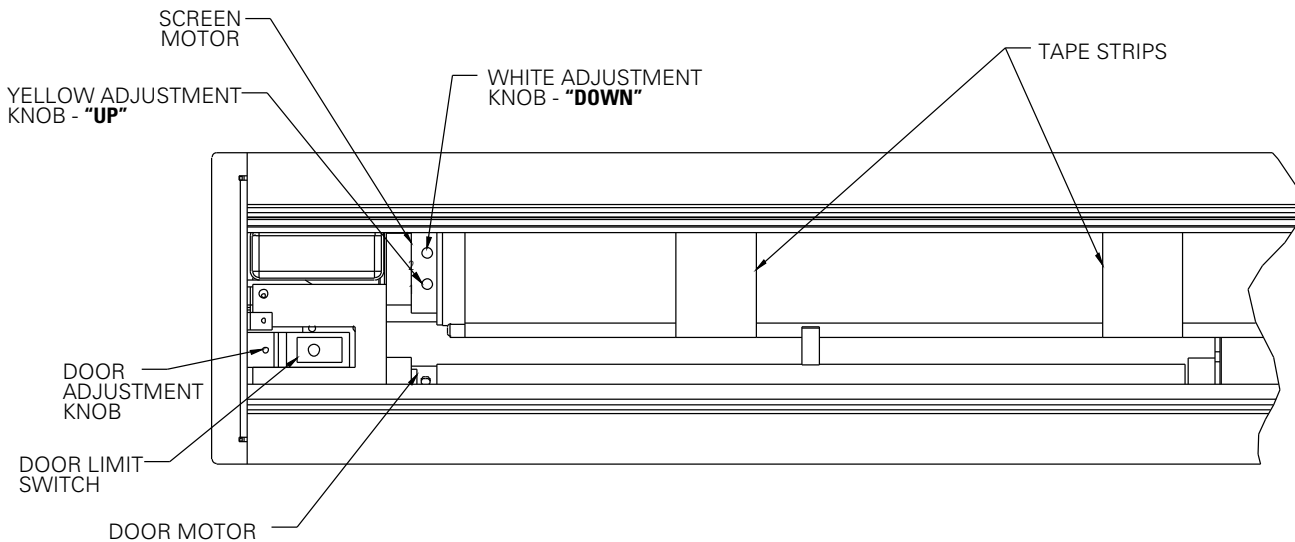

FIGURE 2
6. Carefully remove tape strips securing picture surface around roller. Slat should move freely (Fig. 2).
2. When the screen stops, turn the white **"down"** limit knob (Fig. 2) one-quarter turn counterclockwise. Test by raising picture surface approximately two feet, then lower again. Repeat until desired picture surface position is attained.
3. Turn the white **"down"** limit switch (Fig. 2) one-quarter turn clockwise. Test by raising picture surface approximately two feet, then lower again. Repeat until desired picture surface position is attained.
If the surface door does not close flush with the roller access door, it may become necessary to adjust the door limit switch (Fig. 2). Turn the adjusting knob counterclockwise in increments of one-quarter turn until the surface door is flush with the roller access door.